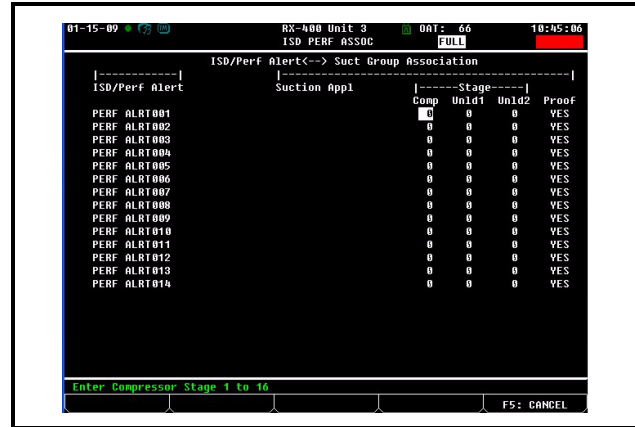

Figure 5-6 - ISD/PerformanceAlert Suction Group Associations Screen
3. Press to select "PerformanceAlert/ISD" from the Associations menu. The screen will display the ISD/PerformanceAlert Suction Group Associations screen will appear (*Figure 5-6*)